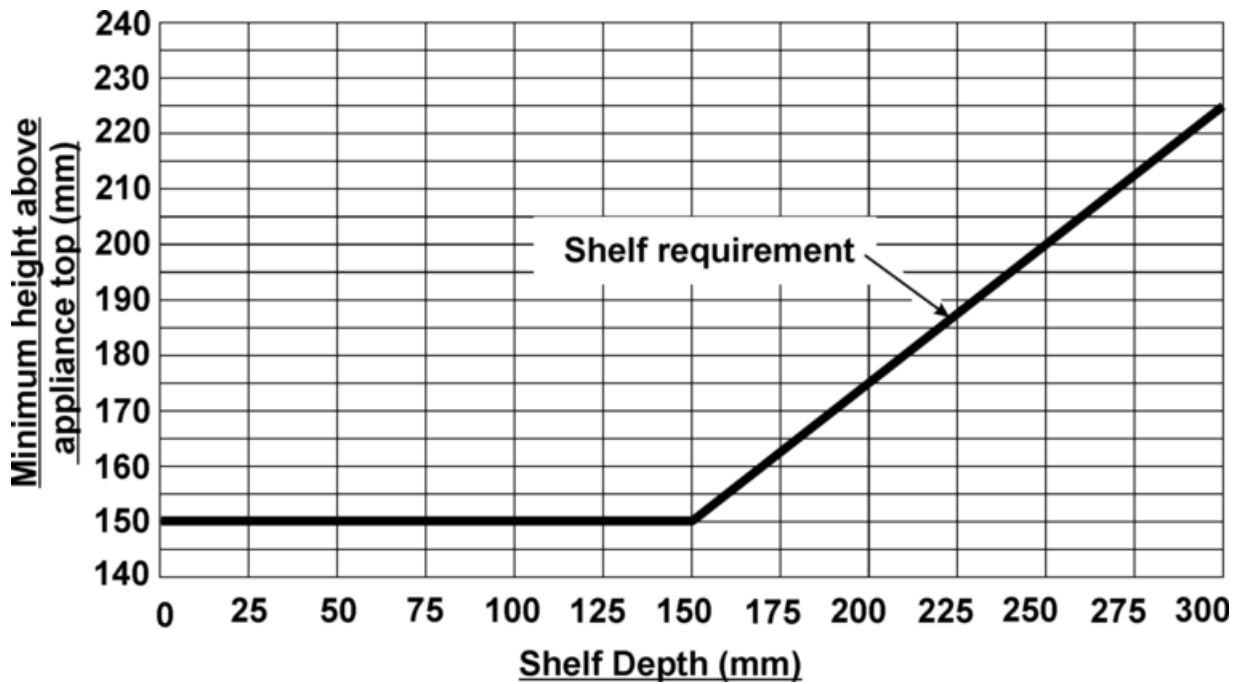

Figure 3. Combustible shelf clearances
- *For a shelf deeper than 150mm:* 150mm + 12.5mm for every 25mm depth over 150mm (See figure 3).